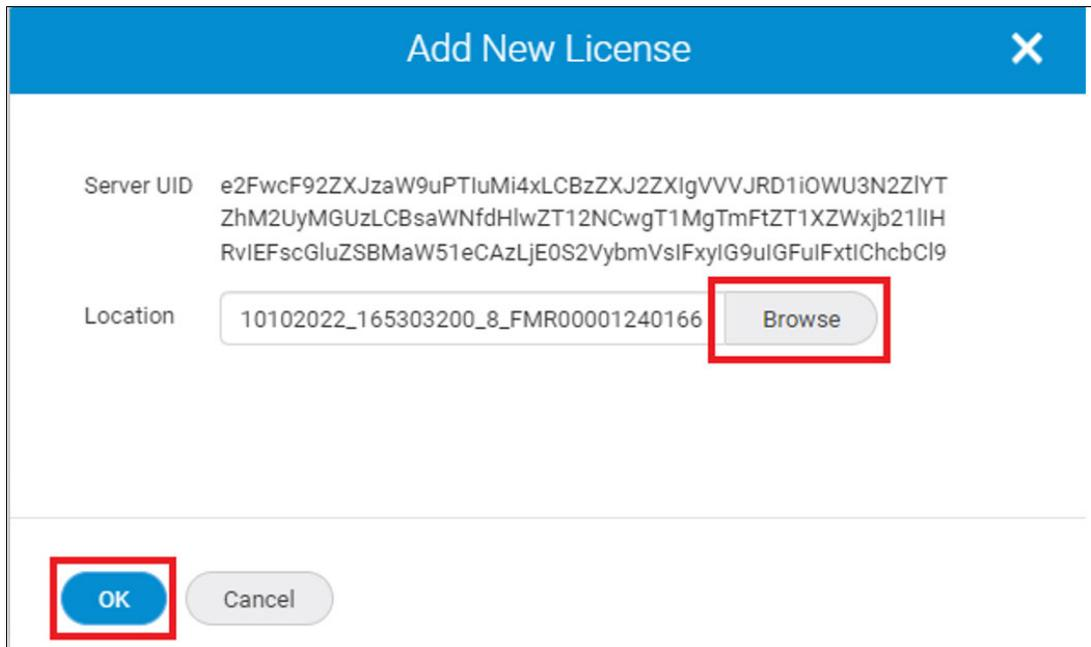

Figure 4-30 Add New License
3. Click **Browse** and go to the location of the license certificate XML file that you obtained from the Broadcom Licensing Portal, as shown in Figure 4-30. Select this file, and click **OK**.